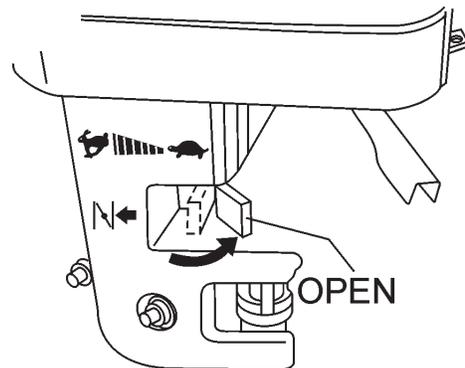

Figure 9. Engine Choke Lever (Open)
4. Place the **choke lever** (Figure 9) in the "OPEN" position if starting a **warm engine** or the **temperature is warm**.